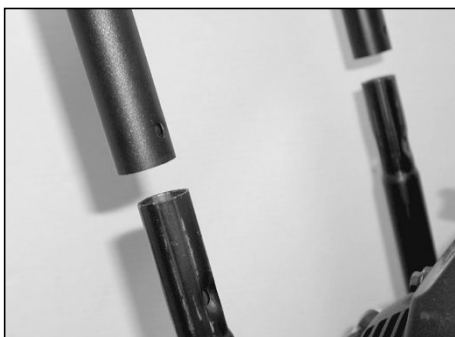

Figure 1 – Assemble Handle
1. Slide the handle assembly over the lower legs of the cart base. Use the (supplied) standard nuts and bolts to secure the handle to the legs (See Figure 1).